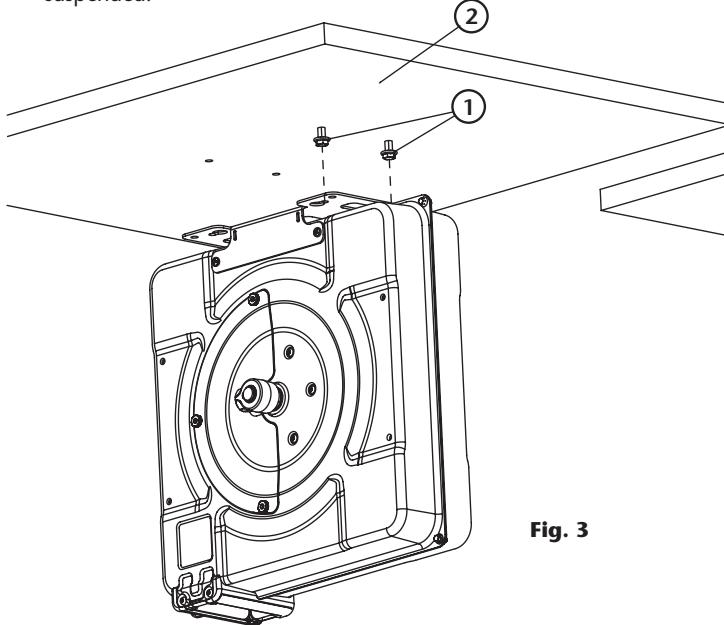

Fig. 3
2. To suspend the hose reel on the mounting surface (2) (fig. 3), it is recommended first to introduce in it two M10 bolts (1) (fig. 3), with their heads slightly jutting out. Over this bolt heads, the reel can be suspended.